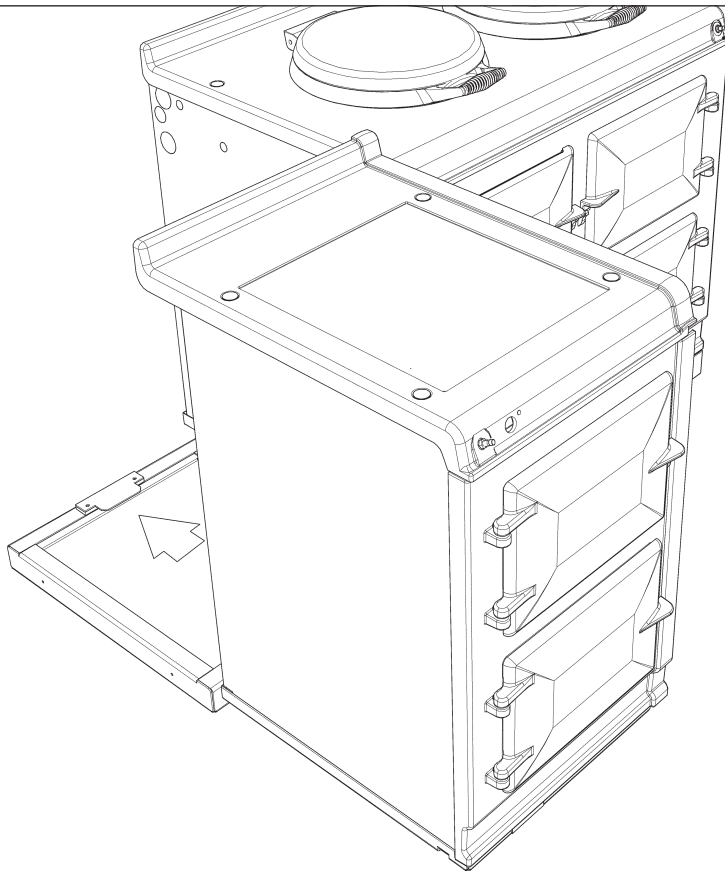

Fig. 12.7
6. Slide hotcupboard onto plinth until rear tongue bracket engages fully into rear of base slot, (**Fig. 12.7**). Ensure the appliance is aligned squarely with the plinth then proceed to engage the front tongue bracket into the slot on the underside of the base plate. Once satisfied that the front tongue bracket is engaged fully lock it into place by tightening the two M6 screws fully. Ensure that the electrical cable does not come into contact with oven vent pipe from the AGA R7.